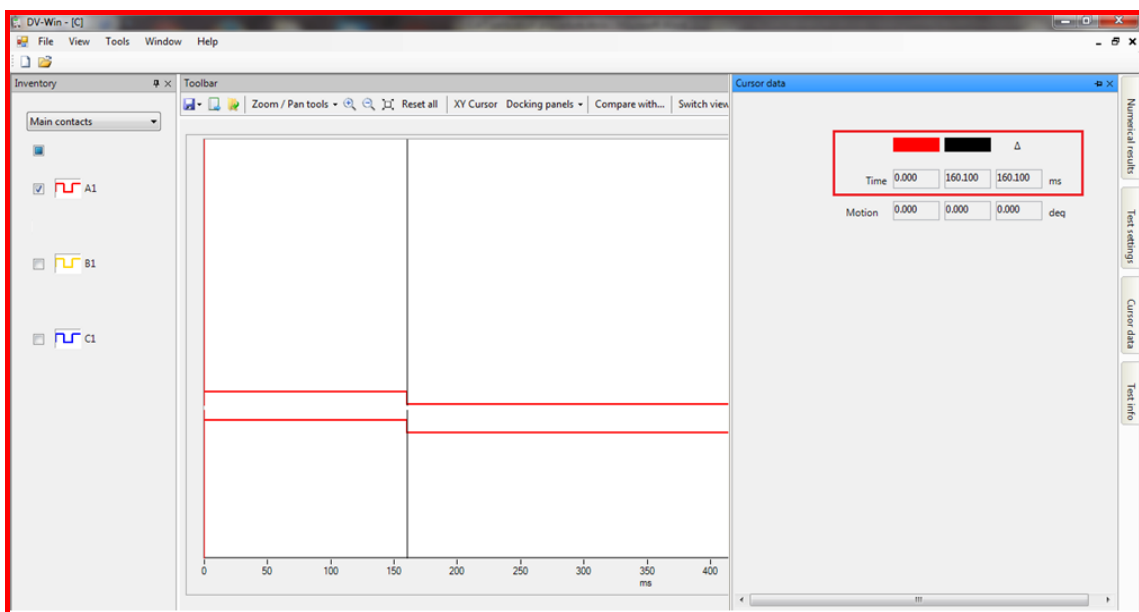

Figure 6-4: Coil Control test – DV-Win test results
4. When the test is finished, a *CAT Viewer* window should appear with the test results for active signals, as shown in the **Figure 6.4**.